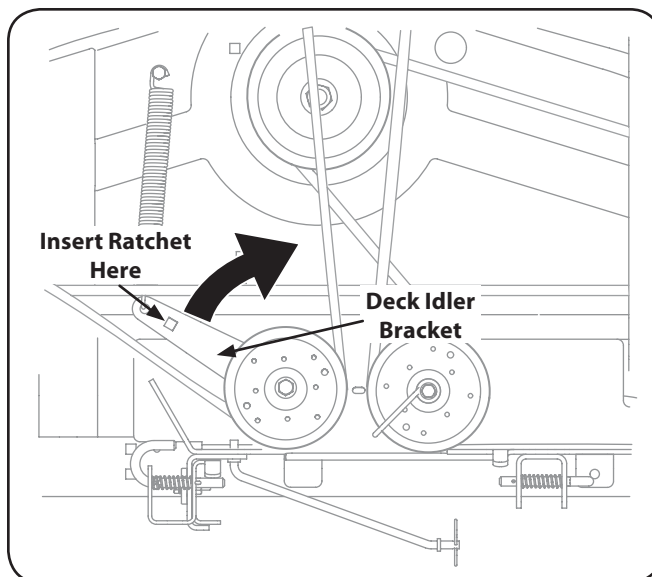

Figure 7-2
**NOTE:** If there is too much tension on the belt for it to be easily removed from the electric PTO clutch, carefully insert a  $\frac{3}{8}$ " drive ratchet wrench (set to *tighten*) into the square hole found in the left-hand deck idler bracket and pivot it toward the tractor's right side to relieve tension on the belt. See Fig. 7-2.